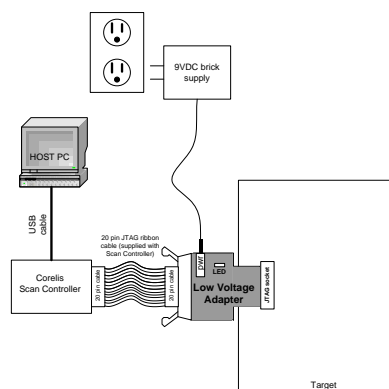

Figure 1 - Low Voltage Adapter connection setup
4. When the target is powered up, the host PC may now be operated using the installed scan controller and its Corelis s/w tools (see instructions for that product). Figure 1 shows the adapter as connected to the target, and the Corelis scan controller (in turn connected to its host PC), ready for operation.